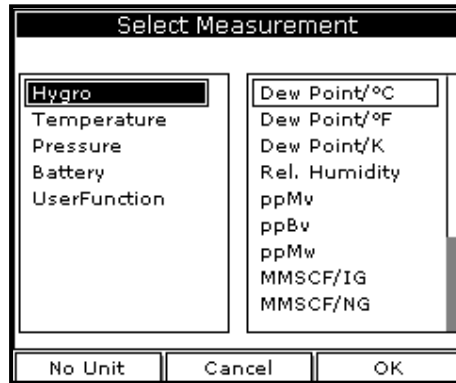

Figure 7: Select Measurement Window
2. Use the arrow keys to scroll to **Measurement** and press **[ENTER]**. The screen appears similar to *Figure 7*. The left column displays the five measurement types and the right column displays the measurement units.